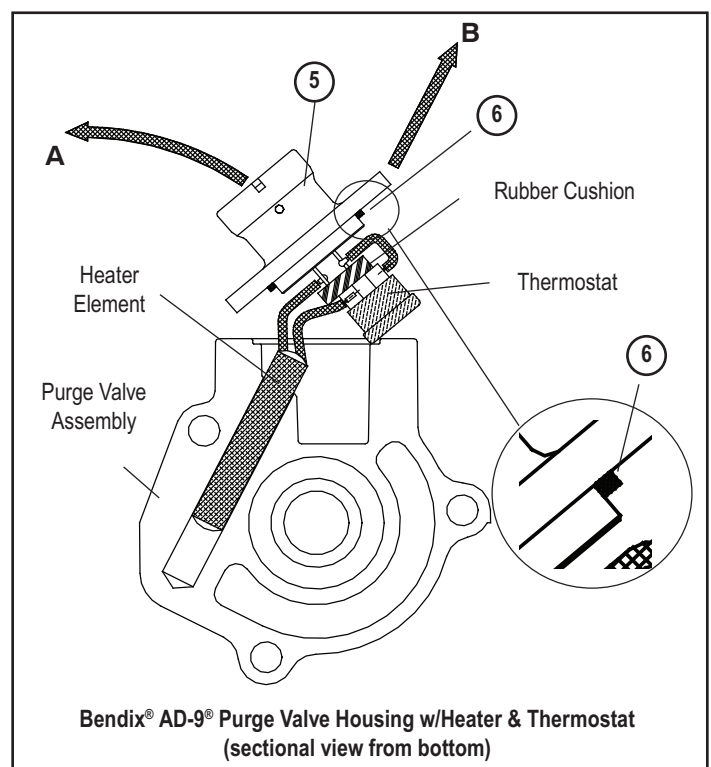

Figure 2 Heater & Thermostat Removal & Installation
- Study Figure 1 closely and note the "Y" shape of the assembly in its installed position in the purge valve housing. Refer to Figure 2 and, as illustrated, remove the Heater & Thermostat assembly by gently "rotating" the connector to the left (A)—until the thermostat clears the purge valve housing—then slide the heater element out, to the right and up (B).
- Compare the color of the removed Heater & Thermostat assembly (5) with the one contained in the kit. The color identifies the voltage and wattage of the heater. If the Heater & Thermostat assemblies are the same color, discard the old Heater & Thermostat assembly (5) along with its sealing ring (6). If they are not the same, then the correct kit must be acquired.
- The "square cut" sealing ring (6) should be pre-installed on the back side of the connector on the piloted surface (refer to Figure 2). If the sealing ring (6) has slipped off, re-lubricate it and install it on the connector. Make certain that this "square cut" sealing ring is NOT TWISTED anywhere along its circumference.
- To install the Heater and Thermostat assembly (5), first install the heater element into the heater element "hole" until the connector contacts the purge valve housing. Gently push the connector and thermostat to the left until the thermostat clears the cavity in the housing. Then, gently rotate the connector to the right while pushing the thermostat down into the cavity (until the thermostat is inside the cavity and the connector seats against the housing). Note: Make certain the sealing ring (6) is not pinched.
- While holding the connector against the purge valve housing, install the two screws (4) that secure the connector to the purge valve housing. Torque to 10–20 inch pounds. If the purge valve assembly WAS NOT removed from the air dryer, discard the three o-rings (1), (2) and (3) and skip to step 9, otherwise continue to step 4.